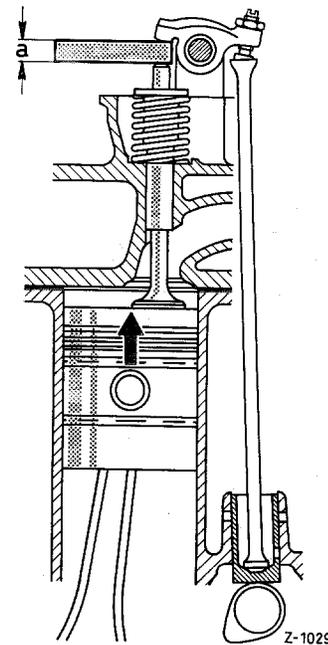

Fig. 00-6/15
- Use valve lifter to press inlet valve downwards and insert a feeler gauge of a given thickness (a) between valve stem and rocker arm (see Figure 00-6/15).